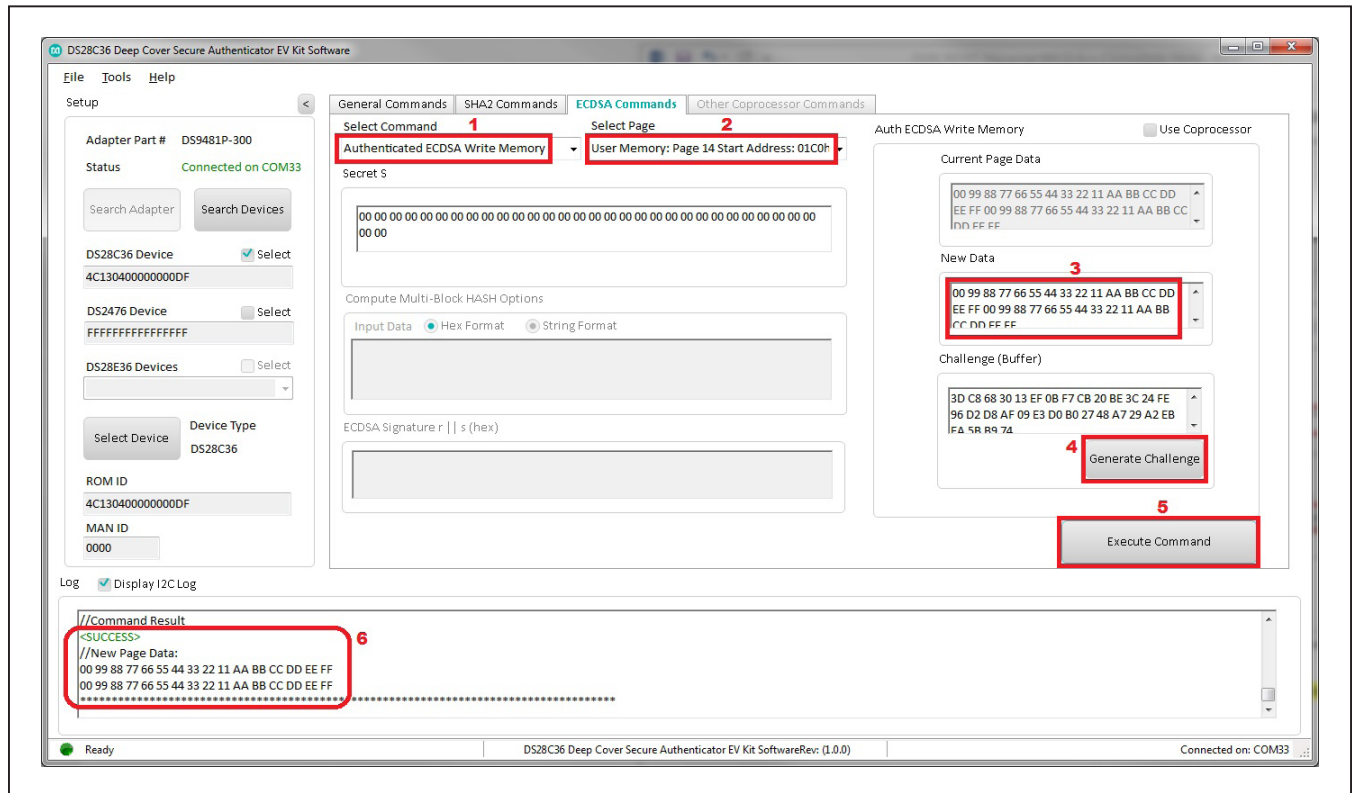

Figure 28. Authenticate ECDSA Write Memory with New Feature (New Data)
- 7) Perform Authenticated ECDSA Write Memory with new feature (new data) to page 14 (Figure 28). From the **Select Command** drop-down list, choose the **Authenticated ECDSA Write Memory** command. From the **Select Page** drop-down list, choose **User Memory: Page 14 Start Address: 01C0h** page for new data. Populate the new data fields with the new hex values. Click the **Generate Challenge** button to generate the new challenge and click the **Execute Command** button to run the sequence. Confirm that the new data was written in the **Log** display.